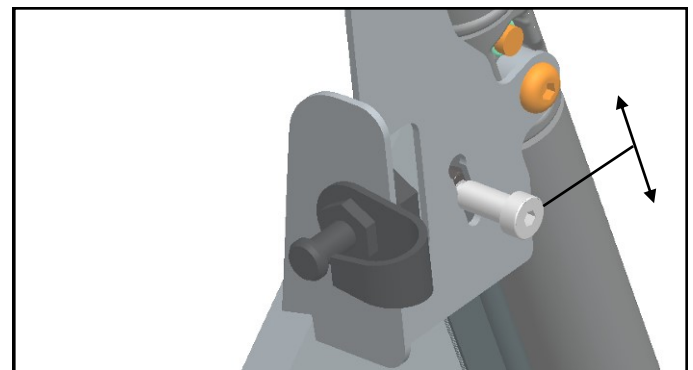
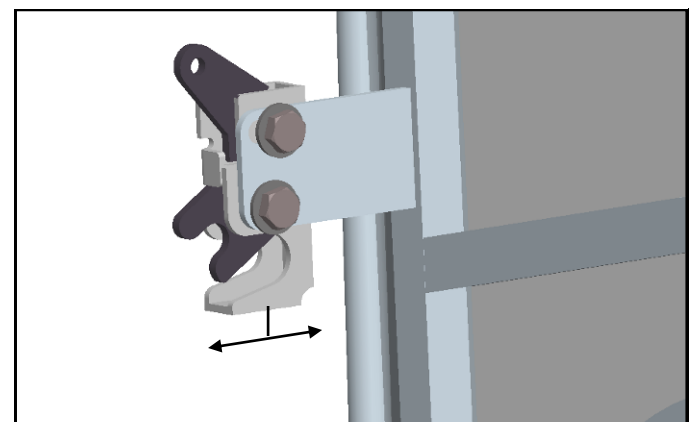

Fig. 8.1 (loosen latch pins)
Fig. 8.2 (loosen windshield latches)
8. Per fig. 8.1, loosen the two silver striker pins that are on the front legs so that they can slide up and down in the slot. Per fig. 8.2, loosen the two latches on the windshield so that they can slide forward and backwards in the slots.
10. Engage the two lower latches onto the pins so that two audible clicks can be heard ensuring that the latches are fully seated. Push the windshield down so that it is sealed to the hood. Orient the latch so that it is in line with the windshield tubing similar to what is shown in fig. 8.2, tighten the two bolts making sure that the sides of the windshield are sealed as well as the hood. Tighten the pin at this time. Once the bottom of the windshield is adjusted, tighten the hinge bolts. **Caution:** use care when tightening any flat head screw in countersunk holes in plastic components to avoid cracking. **Torque to 7 ft.-lbs. max.**